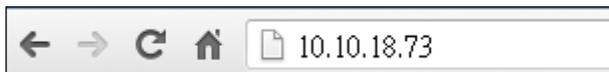

Figure 3-32: IEI iMAN Web Address
Step 2: On the remote management console, open a web browser. Enter the managed system IP address in the web browser (**Figure 3-32**).